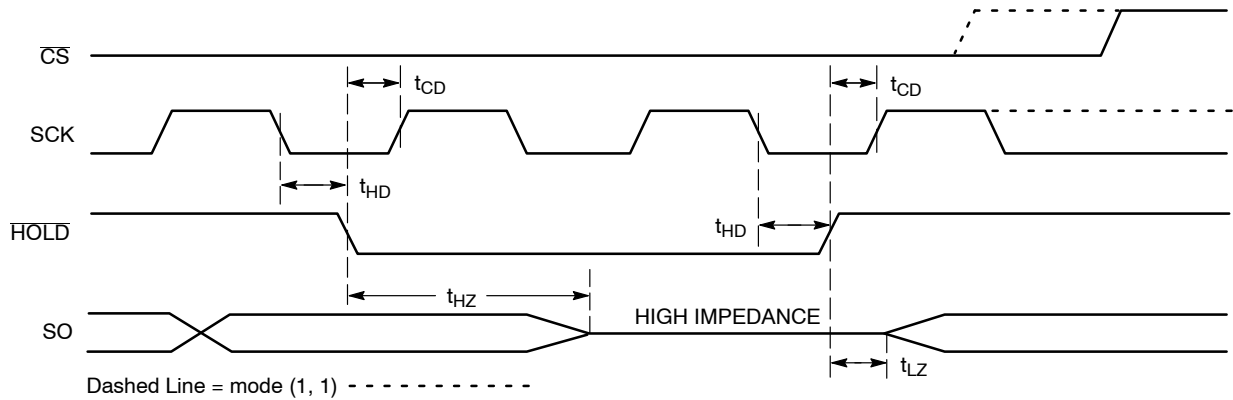

Figure 11.  $\overline{\text{HOLD}}$  Timing
The  $\overline{\text{HOLD}}$  input can be used to pause communication between host and CAT25320. To pause,  $\overline{\text{HOLD}}$  must be taken low while SCK is low (Figure 11). During the hold condition the device must remain selected ( $\overline{\text{CS}}$  low). During the pause, the data output pin (SO) is tri-stated (high impedance) and SI transitions are ignored. To resume communication,  $\overline{\text{HOLD}}$  must be taken high while SCK is low.